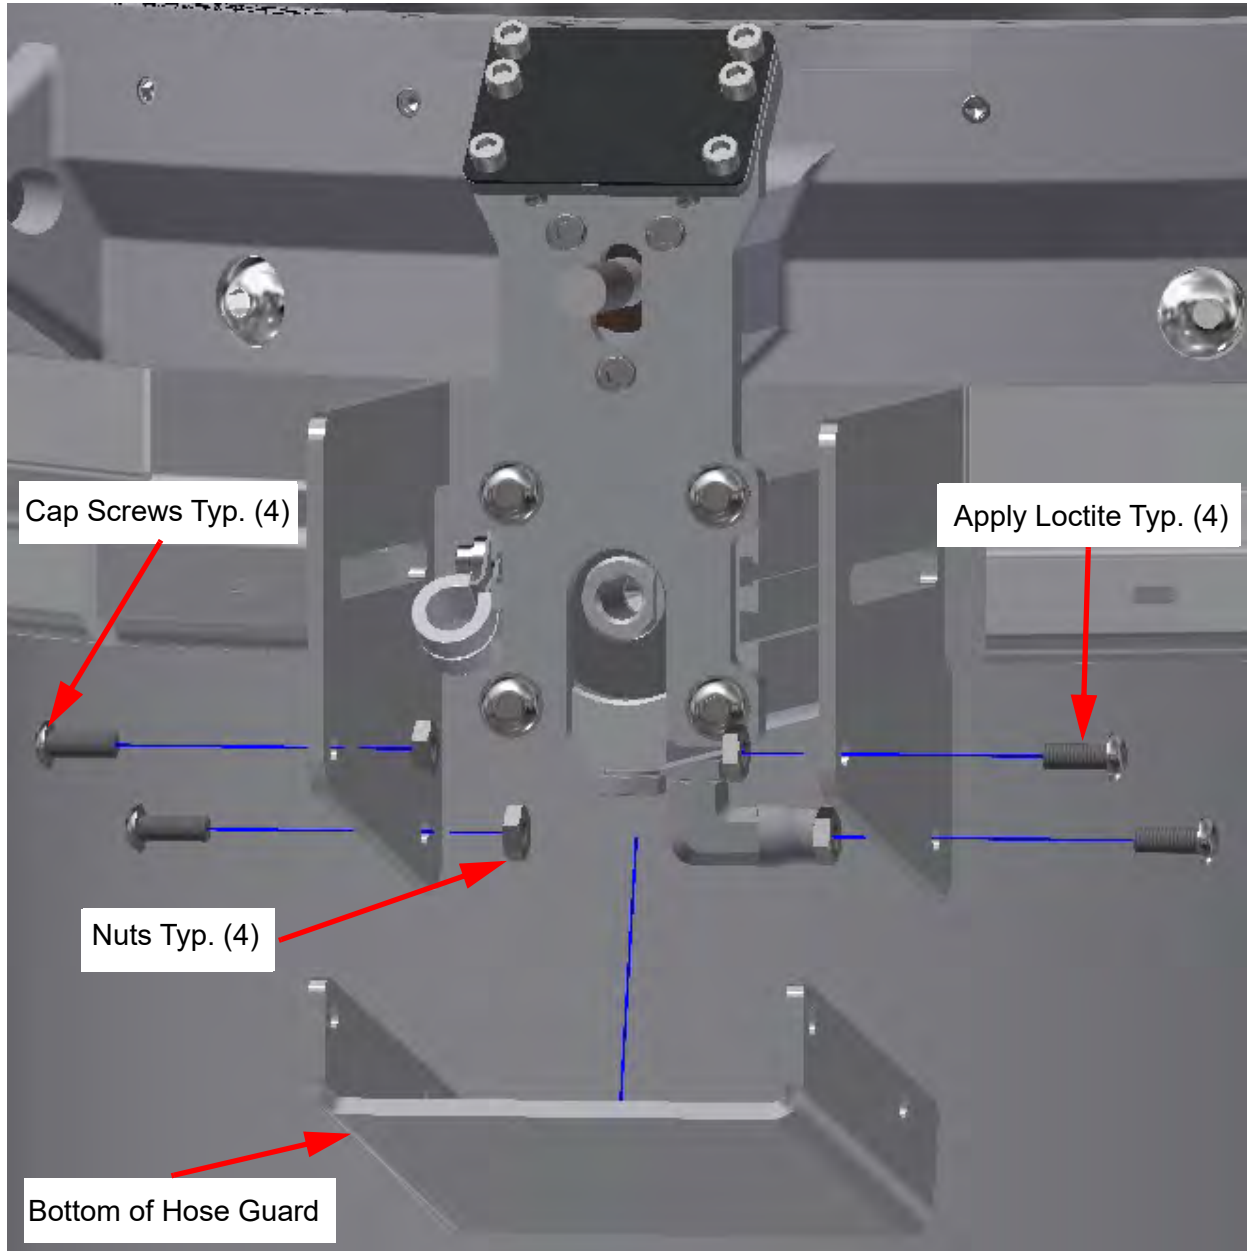

Figure 8-15 Assemble Bottom of the Hose Guard
9. Apply Loctite 243 or equal to button head cap screws (Figure 8-15).
10. Mount the bottom of the hose guard to the assembly using the button head cap screws and nuts (Figure 8-15).